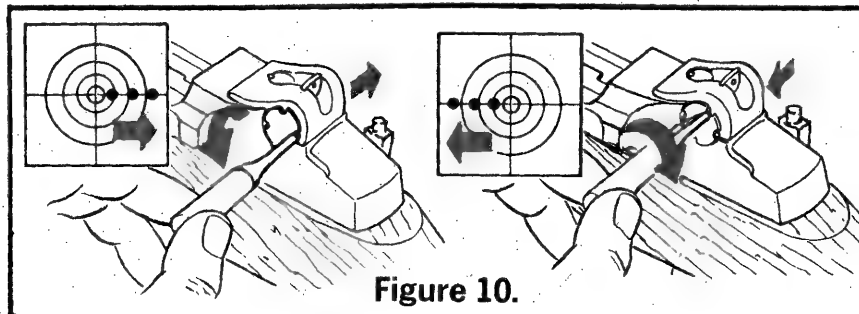

Figure 10.
1. WINDAGE ADJUSTMENT—To move the point of impact to the *right*, turn the adjustment *counterclockwise*. To move the point of impact to the *left*, turn the adjustment *clockwise*. (See Figure 10).